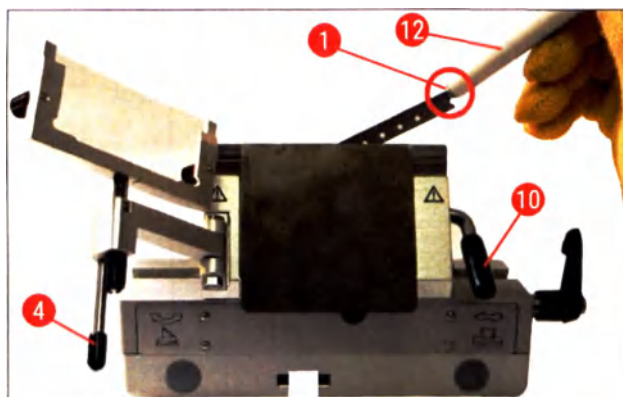

Fig. 35
4. Another option for removing the blade is to use the brush with magnet (→ "Fig. 35-12"). To do so, fold the clamping lever (→ "Fig. 35-10") downward counterclockwise (→ "Fig. 35"). Fold the anti-roll guide system (→ "Fig. 35-4") to the left. Guide the brush with magnet (→ "Fig. 35-1") to the blade and lift it upwards and out.